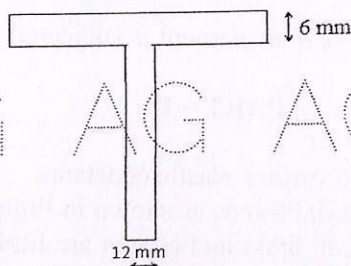

Figure: 4
6. Determine the width of the flange of a T-section, shown in Figure 4, of a simply supported beam if the permissible stresses 75 N/mm^2 in compression and 125 N/mm^2 in tension are reached simultaneously. Also find the moment of resistance of the section. The total depth of the section is 150 mm. [10]